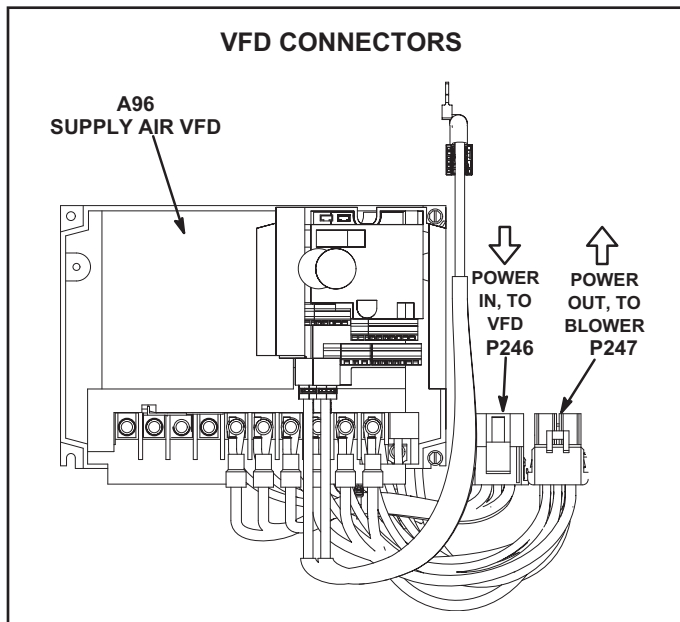

FIGURE 49
- 2 - Locate P246 and P247 connectors near the VFD. See FIGURE 49.